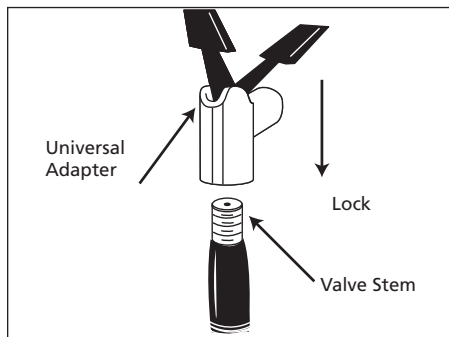

Figure 2
- d. When universal adapter is firmly in place, press locking lever down to lock onto valve stem (See Fig. 2).